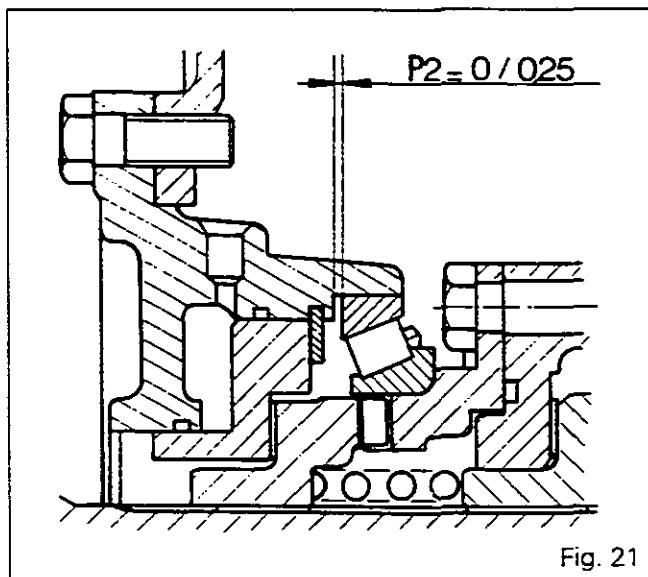

Fig. 21
- 97. Now determine shims (Fig. 21) to obtain pre-load **P2 = zero to +0.25**